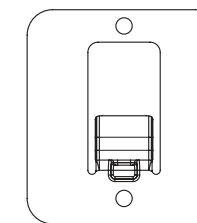

Figure 3
Your fan may be wall mounted using the new QuickMount® wall bracket supplied with your fan. (Figures 3 and 4)
- Fasten wall bracket to mounting surface using 2 appropriately sized fasteners 5/16" lag screw x 2" long (minimum). Drill pilot holes as necessary. (See Figure 3).